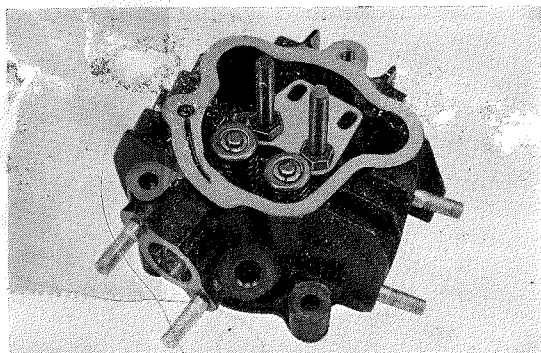

Fig. 25
1. The cylinder head is exposed to the high pressure and temperature resulting from the combustion of the fuel mixture; further, when the head is unevenly torqued, it may develop cracks or warpage and will be the cause of defective sealing between the head and the cylinder and result in gas leak, air sucking and drop in compression. (Fig. 25)